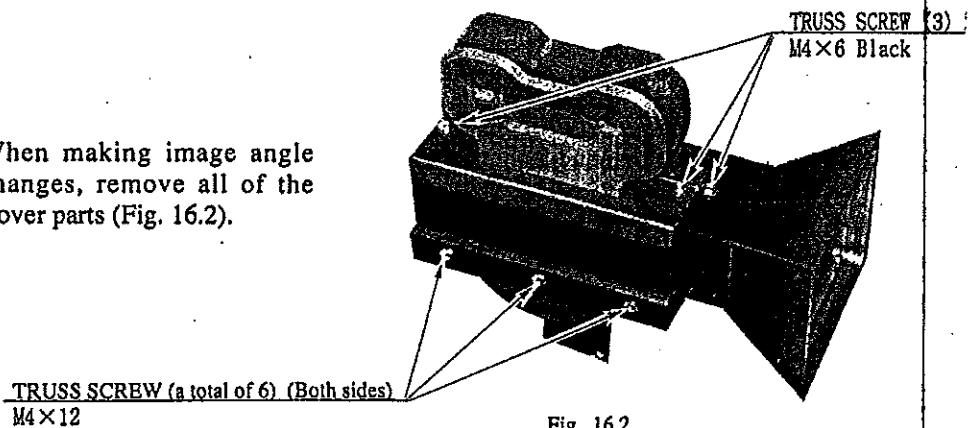

Fig. 16.2
- ④ When making image angle changes, remove all of the Cover parts (Fig. 16.2).